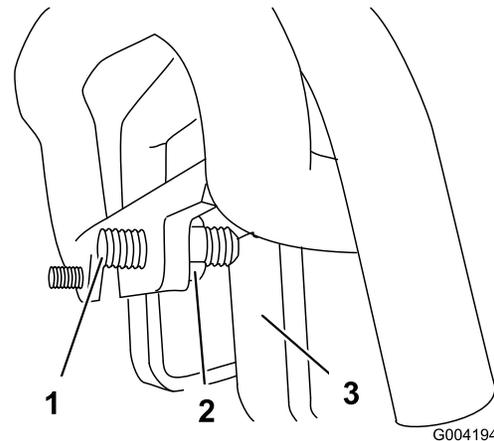

Figure 57
3. If the machine veers to the **left**, loosen the **right** jam nut and adjust the tracking set screw on the front of the traction control (Figure 57).
4. If the machine veers to the **right**, loosen the **left** jam nut and adjust the tracking set screw on the front of the traction control (Figure 57).